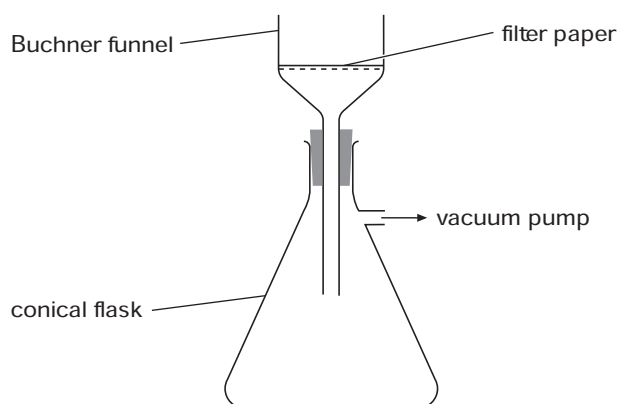

Figure 2 Diagram of a vacuum filtration assembly
- 4 Assemble a vacuum filtration apparatus like the one shown in Figure 2. There are many variations on the equipment used – your teacher may need to show you a different assembly. Use a 250 cm³ conical flask and a coarse filter paper.